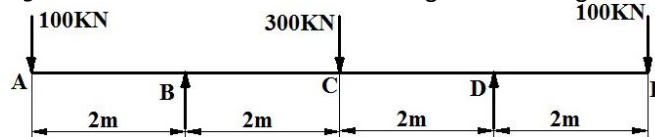

Figure 28
17. For the beam shown in **Figure 28**. Draw shear force and bending moment diagram